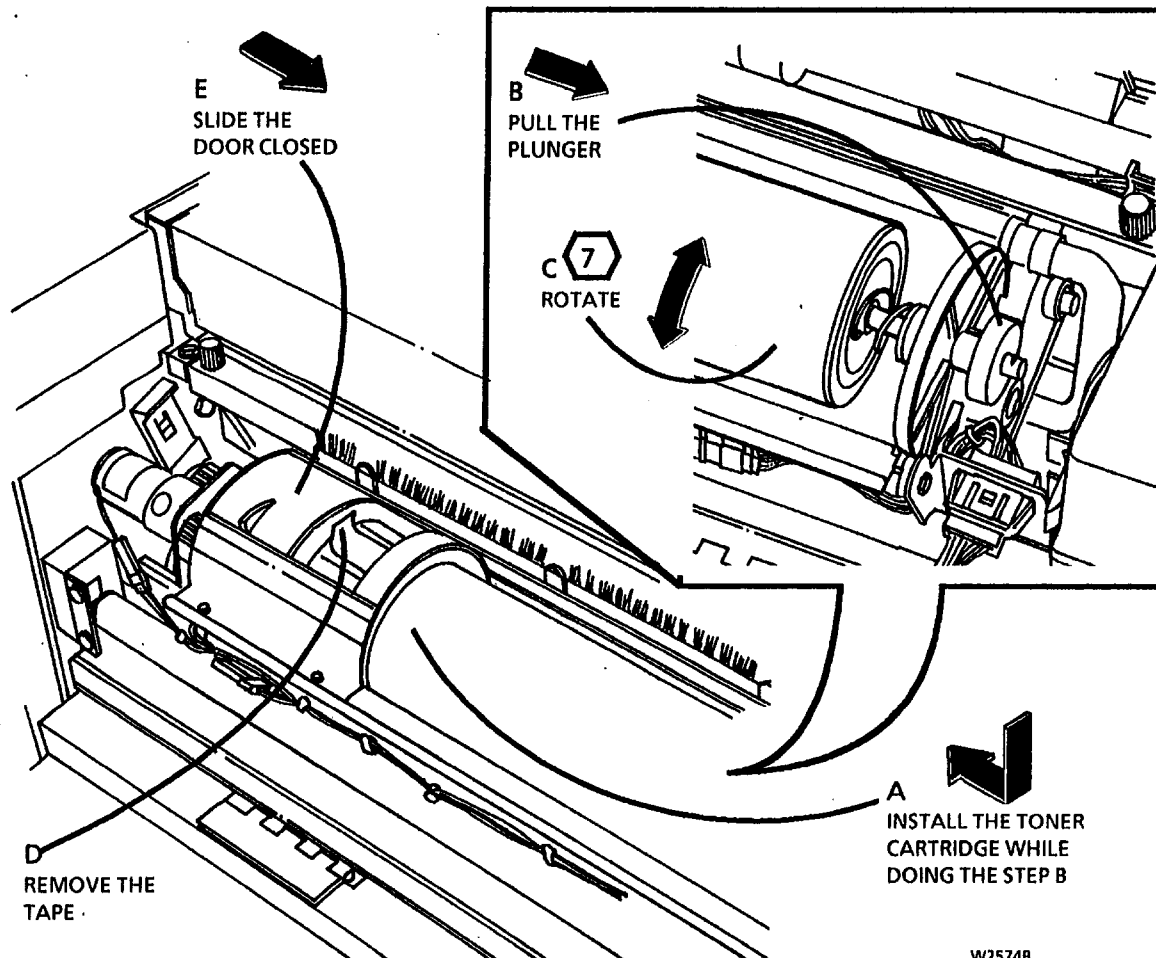

Figure 9. Reinstall the Toner Cartridge
5. (Figure 9): Reinstall the Toner Cartridge.